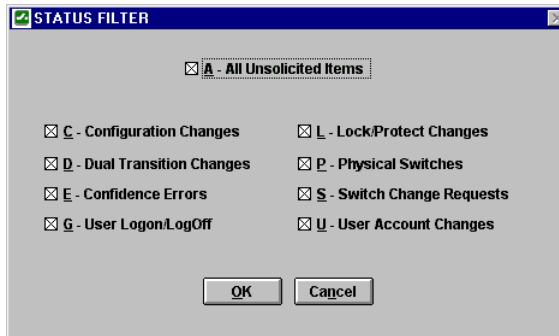

Figure 59 Status Filter Window
8. Click the **Status Filter** button to open the STATUS FILTER window (Figure 59). This is only available for Unsolicited Status Protocol (USP).